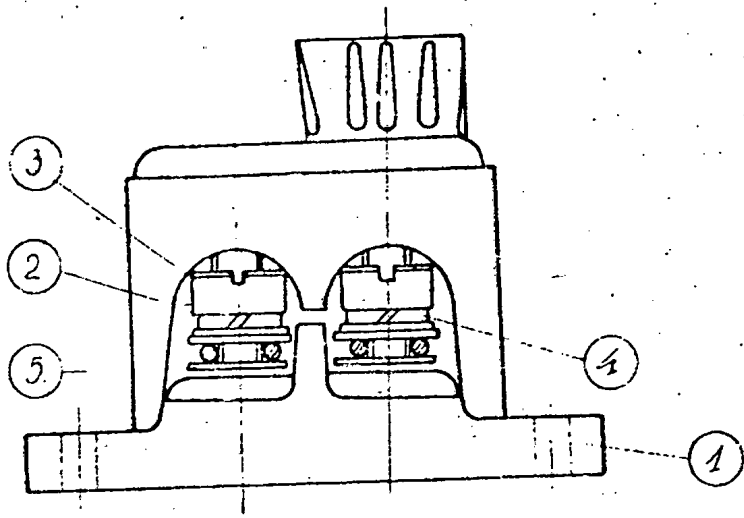

Fig. 6. 73-K two-way fastening clip
1. BK and 75 K two - way clips /Fig. 6/.